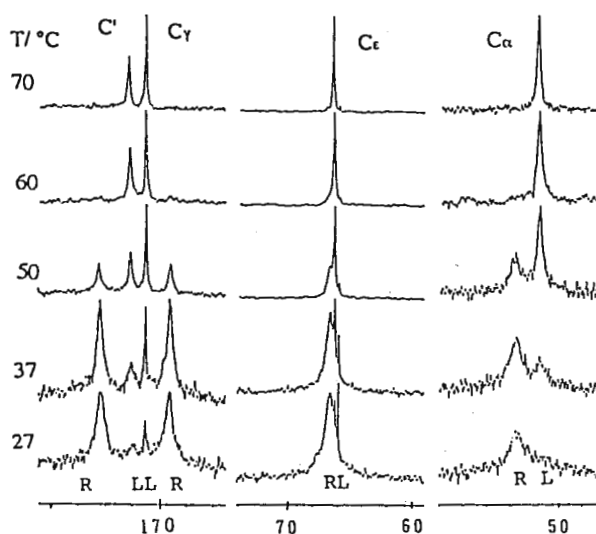

Fig. 1. Temperature dependence of ¹³C NMR spectra of PnPLA in CDCl₃.
Poly(L-aspartates) take on various conformations in solution as well as in solid, depending on the temperature, the solvent, and the intrinsic properties of the different ester side chains. We investigated the temperature dependence of the NMR spectra of poly(β -*n*-propyl L-aspartate) (PnPLA) in CDCl₃, in which PnPLA forms an α -helical conformation. ¹³C spectra of PnPLA show broad resonances, due to the slow-tumbling motion and the molecular aggregation for rod-like molecules, as shown in Figure 1. The main resonances at 27°C are characteristic of the right-handed α -helical conformation (R), and, on the other hand, minor resonances are characteristic of the left-handed α -helical conformation (L). With increasing temperature the intensities of the latter grow up while those of the former decrease. This shows the thermally induced helix-sense transition from the right-handed to the left-handed α -helical conformation. The mid-point is about 50°C. All the chemical shifts for both conformations are different, showing that the main chain conformation affects on the longer side chain conformation. T₁ and T₂ are different between both conformations, suggesting that the molecule in the left-handed helix is more mobile than that in the right-handed helix. The quantitative analysis of the relaxation times is in progress.